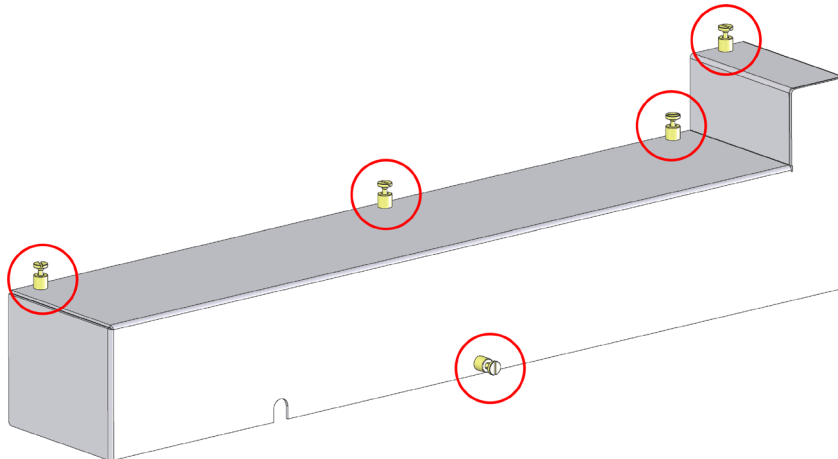

Figure 82 – Removing Shielded Photometer Top Cover
7. Remove the grub screw (1.5 mm hex key) from the hole in the left side of the block (refer to Figure 82) securing the UV lamp and slide the lamp out of the block.